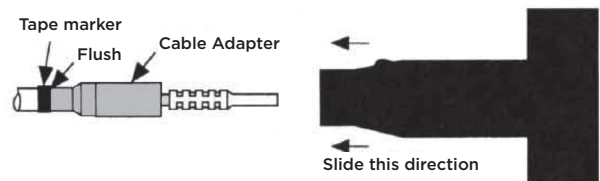

Fig. 10 - Assemble T-Body
- B. While holding the cable adapter in place and making sure the connector is properly aligned, slide the t-body housing onto the cable assembly. The housing should bottom out onto the connector. Verify that the cable adapter did not move and is still flush with the tape marker. If the adapter moves, pull it back up a few inches, reapply silicone lubricant to the cable insulation, and reposition until it is again flush with the tap marker. (see Figure 10.)